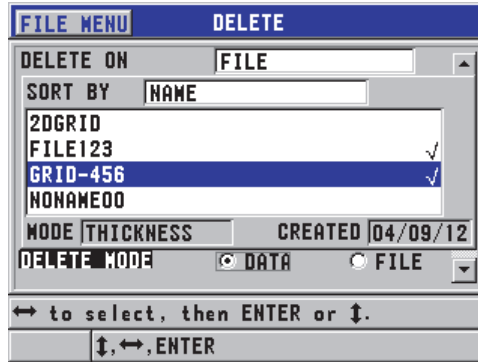

Figure 6-31 Deleting a file
2. In the **DELETE** screen (see Figure 6-31 on page 122):